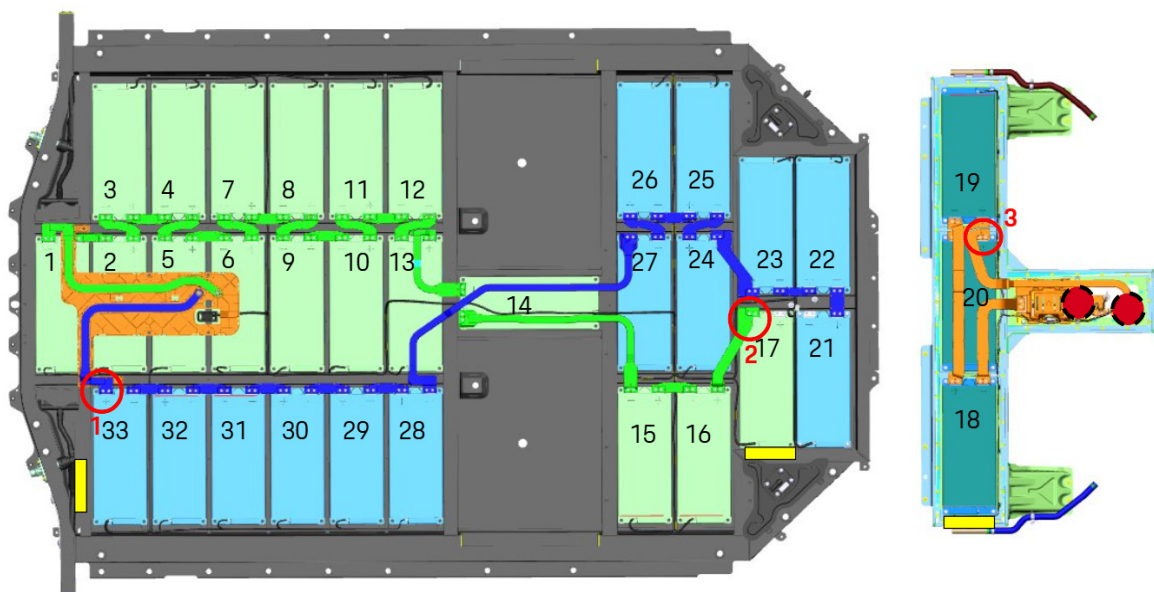
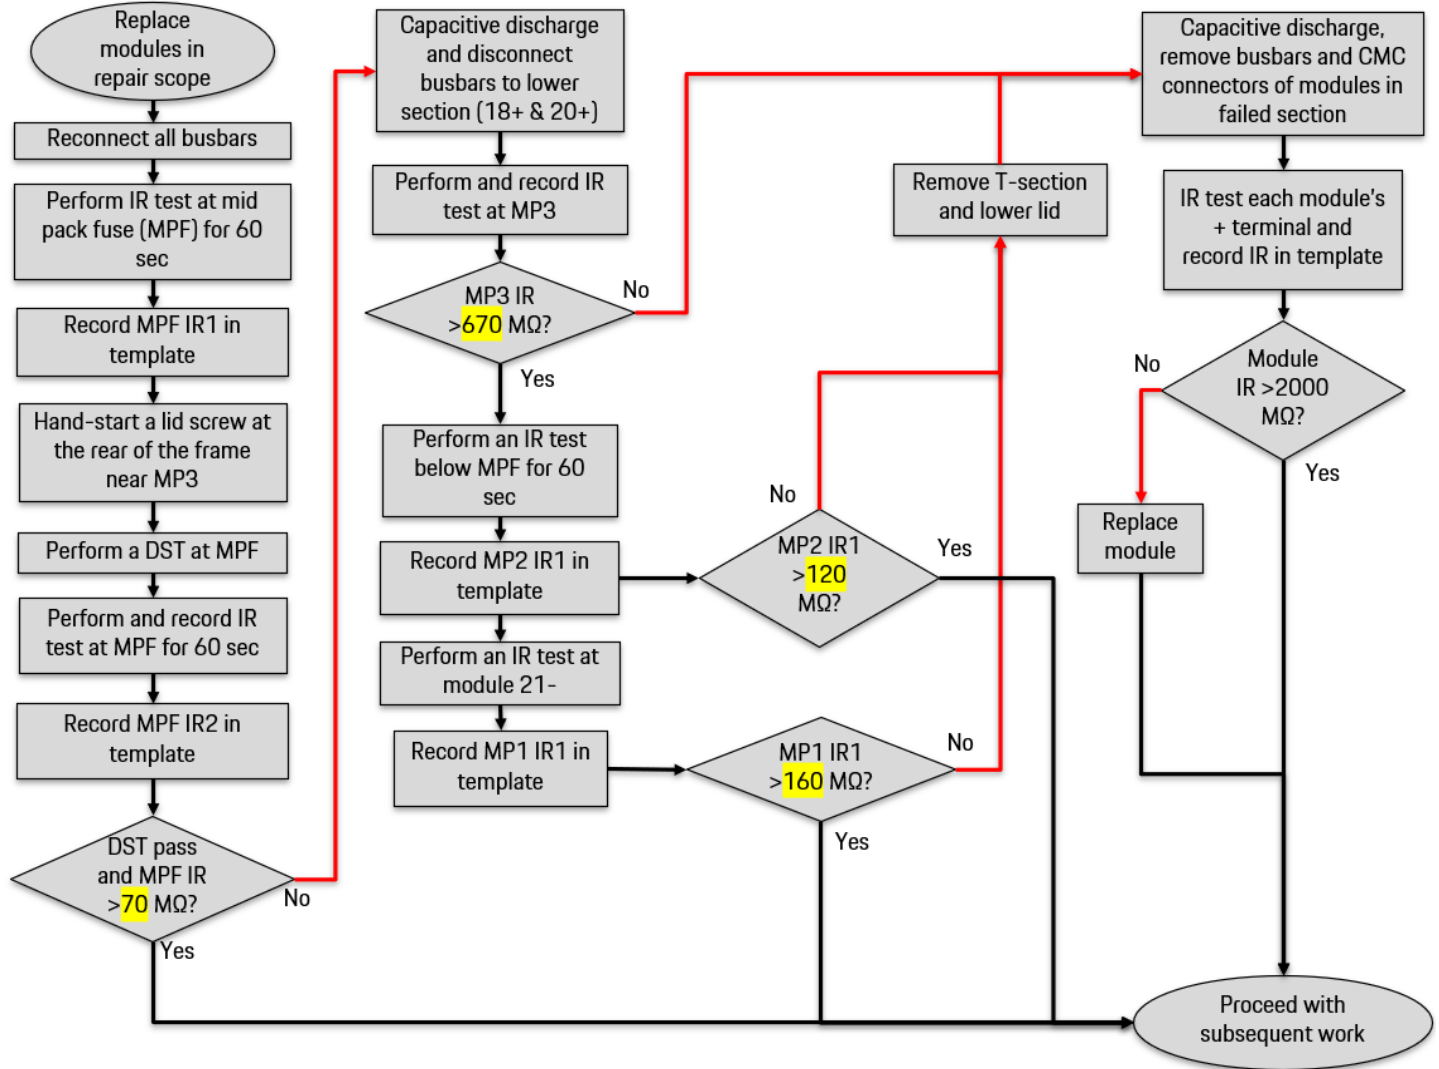

Figure 3 - 33-module HV Battery measurement points
Figure 5 - 33-module Upper Section Flowchart
DST Procedure for 33-module Taycan Battery Pack (Figure 3)
- Repair scopes in only the upper "T" section require an initial DST at the mid-pack fuse as shown in step 3.9.3 of Safety test after assembly work on the high-voltage battery with 33 modules in WM 270803A5 instead of point 3 in *Figure 3*.
- The yellow boxes in *Figure 3* designate the section of frame where a lid screw can be hand-started to ground the dielectric strength tester. If performing a DST on the mid-pack fuse, use the location on the upper "T" section to ground the negative clamp.
- For repair scopes only in the upper level, IR test the upper and lower sections separately after an initial DST failure according to the flowchart in *Figure 5*.
- ▷ These measurement points identified below the mid-pack fuse in *Figure 3* serve as alternates to MP1 and MP2 as referenced in the *Figure 5* flowchart when the lower lid is still installed.